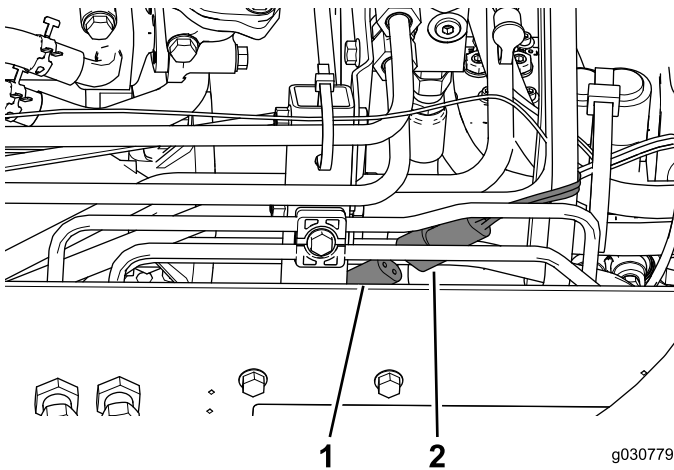

Figure 46
2. Connect the cab power connector to the connector on the right side of the machine (Figure 46).